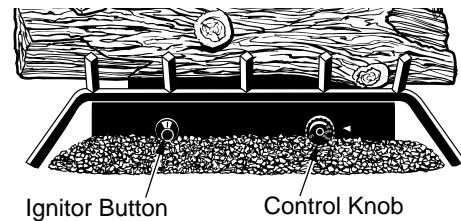

Figure 40 - Control Knob and Ignitor Button Location
4. Wait five (5) minutes to clear out any gas. Then smell for gas, including near the floor. If you smell gas, STOP! Follow "B" in the safety information in column 2, page 18. If you don't smell gas, go to the next step.
5. Turn control knob counterclockwise to the PILOT position. Press in control knob for five (5) seconds (see Figure 40).